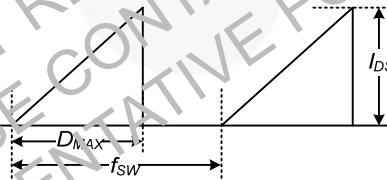

Figure 4. Repetitive Peak Switching Current
- Repetitive peak switching current when a resistive load is assumed: Limited by maximum duty (D_{MAX}=0.73) and junction temperature (see Figure 4).